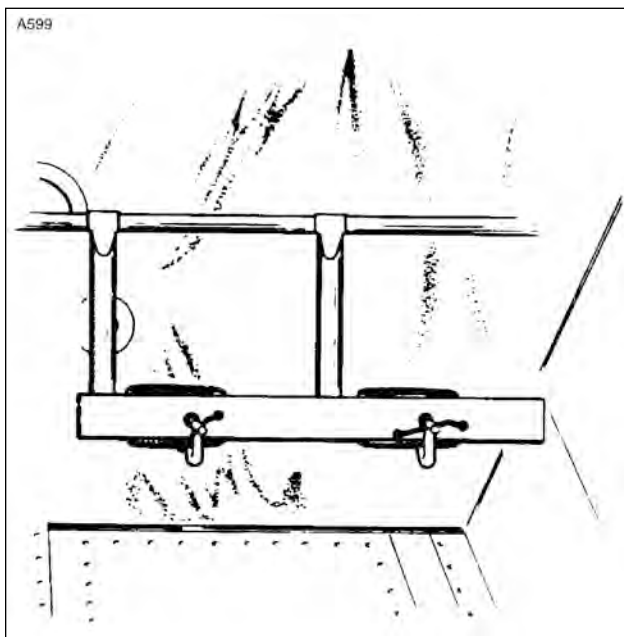

Figure 32-11. Clamping Rudder Pedals
- (1) Park the airplane on a smooth level floor which will accommodate the striking of a chalk line.
- (2) Place airplane on jacks and level airplane laterally and longitudinally. (See 7-10-00 and 8-10-00.)
- (3) Extend a plumb bob from the center of the tail skid and mark the contact point on the floor.
- (4) Extend a chalk line from the mark on the floor below the tail skid to point approximately three feet forward of the nose wheel. Allow the chalk line to pass under the wheel at the centerline of the tire. Snap the chalk line.
- (5) Clamp rudder pedals to align in a lateral position. (See Figure 32-11.)